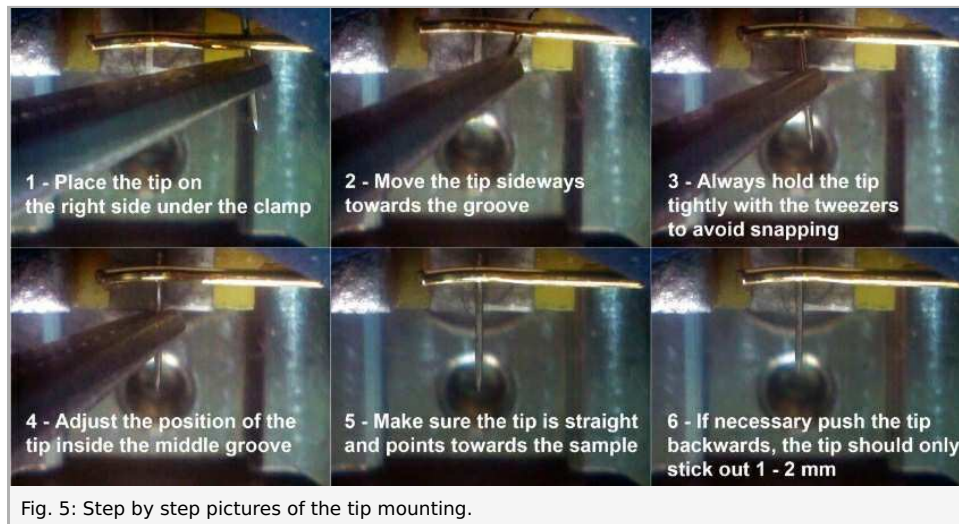

Fig. 5: Step by step pictures of the tip mounting.
- Put the tip wire underneath the clamp on the tip holder (A), parallel to the groove and push it all the way to the end. Move the tip wire sideways until it is in the groove and held securely under the clamp (B).
- It should stick out about 1–2 mm beyond the tip holder. See also Fig. 5 for step-by-step pictures.